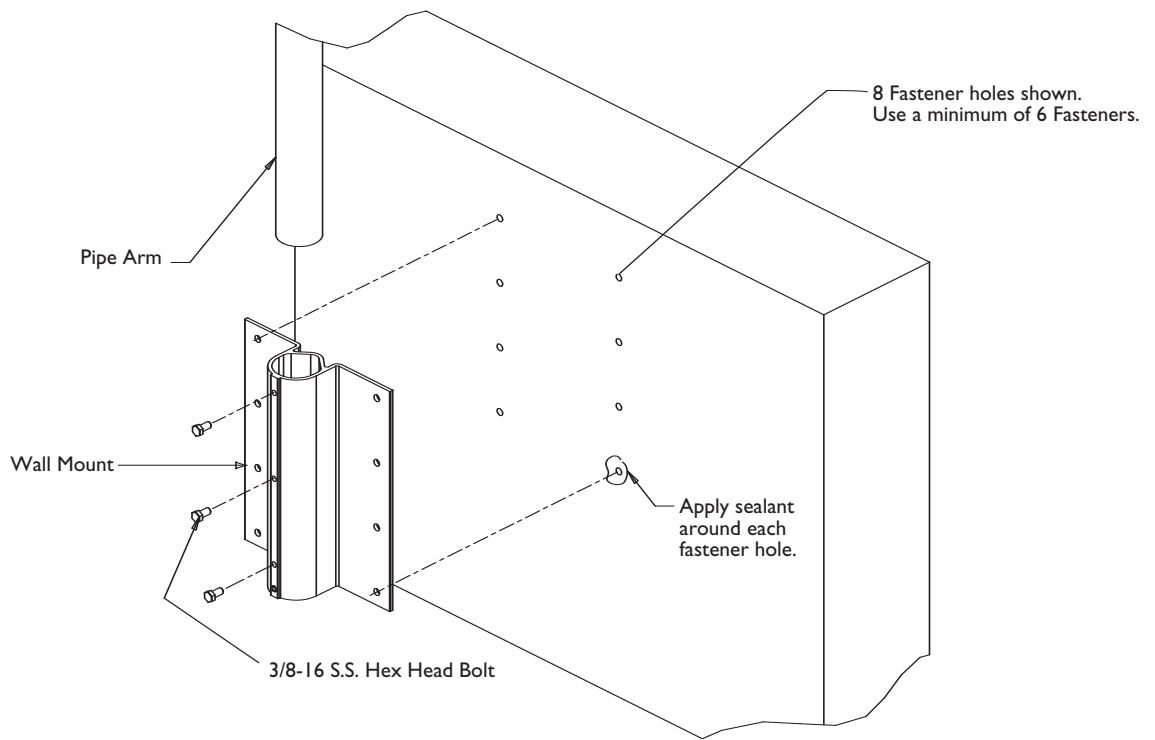

Figure 2: Installation of Wall Mount
- Using the wall mounting bracket as a template, position the bracket in the desired location and mark the hole locations on the wall. (see **Figure 2**). Use a minimum of six fasteners (three fasteners for each side of the mounting bracket).
- Apply a good quality sealant around each hole, anchor or stud at the mounting surface (see **Figure 2**).
10. Rotate the pipe arm to swing the dome out from the roof and into the desired position. Tighten the three 3/8 inch stainless steel hex bolts (provided, see **Figure 2**) to secure the pipe arm into position.